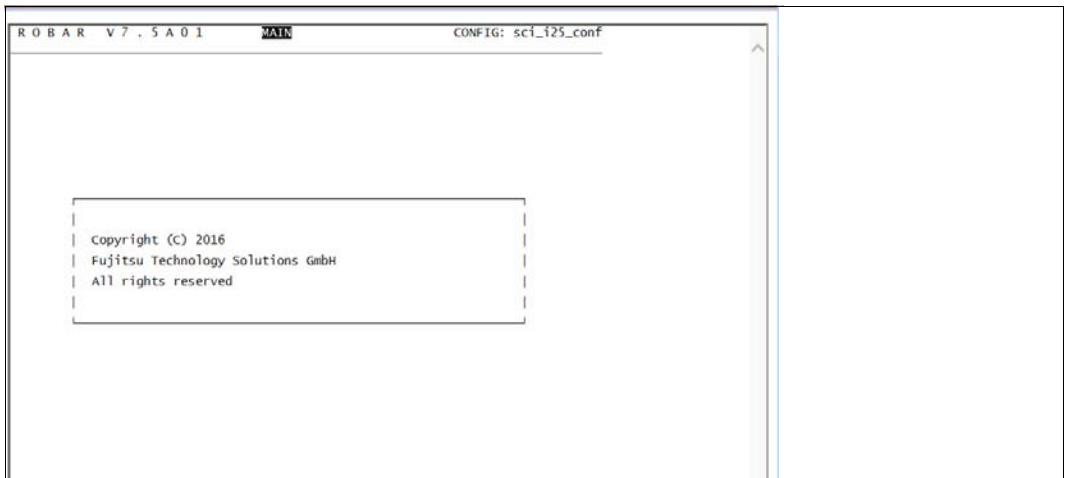

Figure 9: Main menu
- The first ROBAR administrator (member of the `robaradm` and `robarsv` user groups) who calls the menu program is granted the complete and unrestricted range of functions (see figure 9 on page 150).